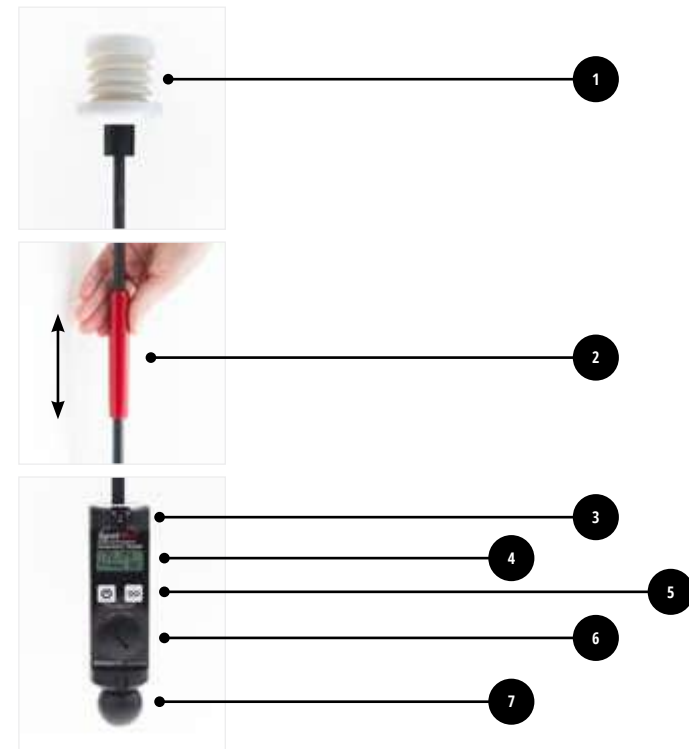

Fig. 1
Unscrew the temperature sensor cover. Next unlatch the pole from the pole clip (3) of Fig. 1 using firm upward hand pressure as shown in Fig. 2. Then unfold the pole and move the sliding pole lock (2) of Fig. 1 fully over the flexible spring as shown in Fig. 1. When finished using the meter move the sliding pole lock back against the stop collar and refold the pole snapping it into the pole retaining clip (3) of Fig. 1 with firm hand pressure. Finally replace the temperature sensor cover to protect the radiation shields from dirt or impact.
Turn the meter ON and wait for the current temperature reading to display after the battery status screen. No other buttons need to be pressed to measure current air temperature. Hold the temperature sensor end (1) of Fig. 1 at boom height and wave it back and forth until you observe a stable temperature value on the LCD. Please note that a flashing temperature value indicates that the sensor is still adjusting to current air temperature. Continue to wave the sensor back and forth until the displayed temperature reading shows steady without flashing. This indicates a stable temperature reading.
Turn the meter ON and wait for the display to show current temperature, then press GO to enter the first inversion reading sequence. Follow the on-screen instructions to hold the ball end (7) of Fig. 1 at a height of 2 meters (6.5 feet). Use the Inversion Tester to set this height; it is 1 meter long so it can be used as a measuring stick by placing the shield end on the ground and noting the height of the ball end as shown in Fig. 3. Next raise the ball end until the shield end is at this noted 1 meter height as shown in Fig. 4. This sets the ball end at the 2 meter (6.5 foot) elevation. Press the GO button to start the reading sequence for the lower temperature reading. While holding the ball end of the meter at 2 meters (6.5 feet) wave the sensor end back and forth quickly to improve air flow as shown in Fig. 5. (vigorous waving leads to a faster response). Continue waving back and forth until the display beeps and shows “DONE”. Now flip the meter over so that the sensor end is pointing straight up towards the sky while continuing to hold the ball end at 2 meters (6.5 feet) as shown in Fig. 6. Press the GO button to start the reading sequence for the upper temperature reading. Follow the previous waving and waiting instructions until this upper reading is complete. The display will now show either “INVERSION PRESENT!” or “NO INVERSION” based on the recorded temperature values as shown in Fig. 7. It will then show the inversion intensity in °C or °F. The display will continue to alternate between the inversion result and the intensity for one minute before it automatically shuts off. Note: This meter will not capture a temperature reading until its software detects a stable value. Therefore “waving” time will be longer when the meter is placed in an environment significantly hotter or colder than where it was stored.